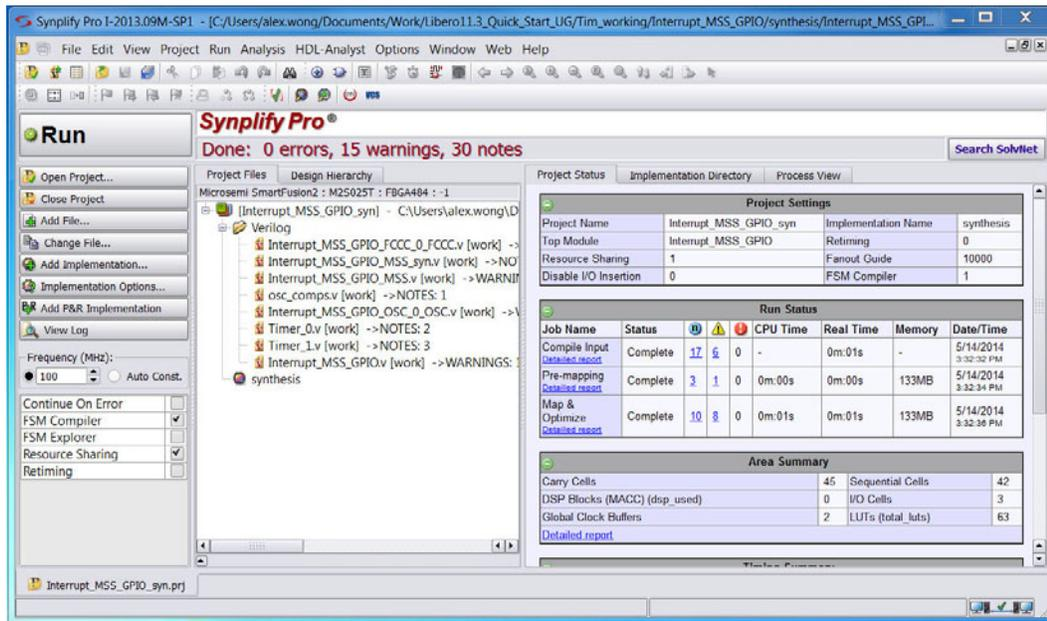

Figure 4-13 • Synplify Pro GUI
You can change the frequency in the Synplify Pro GUI to meet your design requirements. In this design, we are not changing the frequency (Figure 4-13).
2. Click **Run** to map the design (Figure 4-13). When **Ready** in Synplify Pro changes to **Done:0 errors**, the design has been mapped successfully.